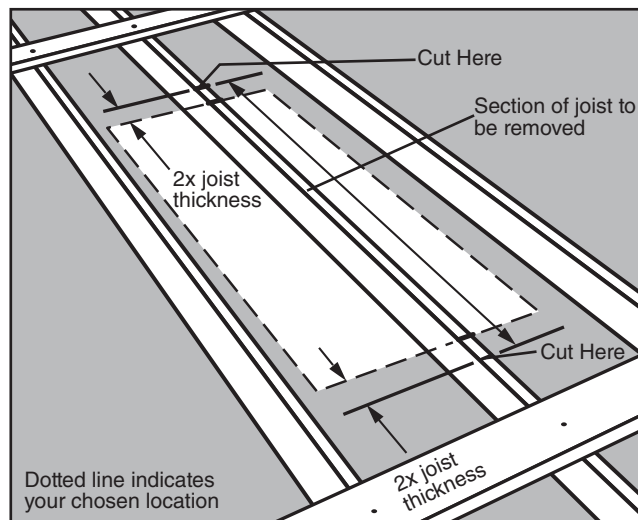
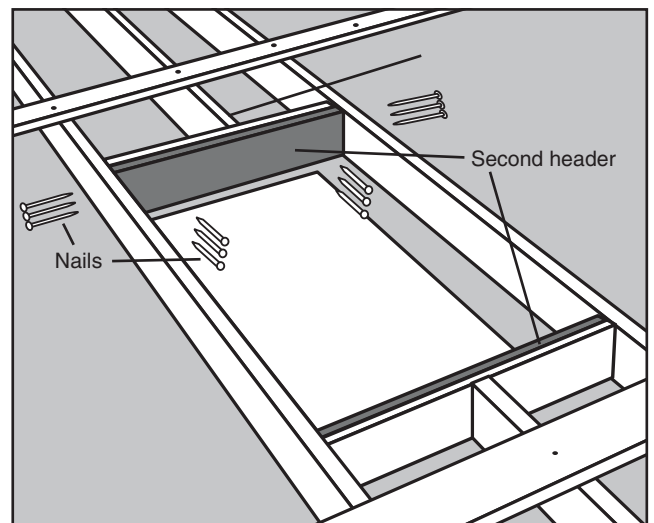

FIGURE 10
FIGURE 16
**STEP 4.** Determine where the joist(s) should be cut. Figure 10 shows where to mark the joist(s) that span your chosen location. Note that the joist(s) should be marked back from the edge of your location a distance of 2 times the joist thickness (usually three inches). This leaves room for two joist-sized headers to be placed against each end of the cut joist(s) (See Figure 16 on page 15).
- STEP 6.** Place a second header against the first header and nail it to the first header with (3) 16d nails between each joist (See Figure 16).
- STEP 7.** Drive (3) 16d nails through the joists into each end of the second header (See Figure 16).